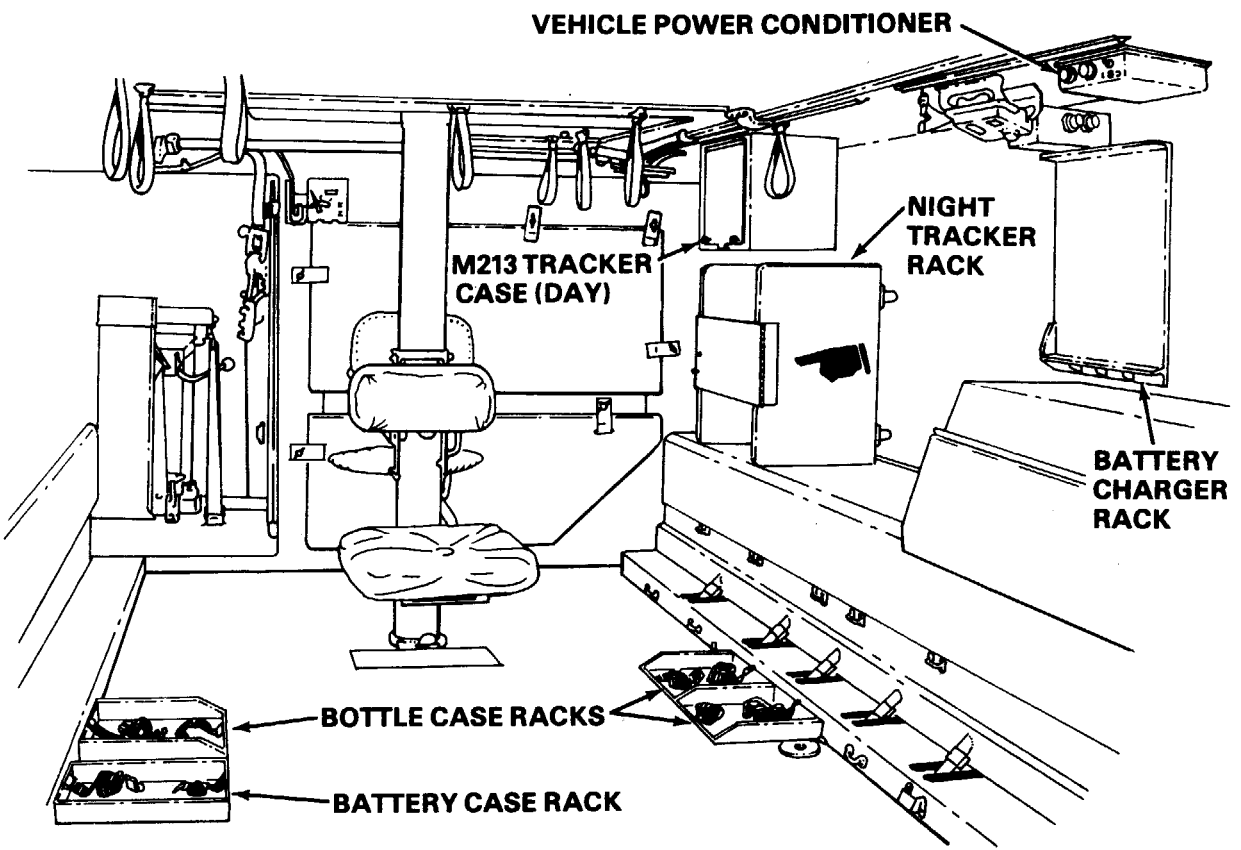

Figure 1-4
b. When you are using the DRAGON on an APC you will require the following items of support equipment. These items are shown on Figure 1-4, 1-5 and 1-6.
d. Have your supervisor or track mechanic refer to TB 9-1425-480-20 for instructions and procedures to install, remove, and maintain DRAGON support equipment shown on figure 1-4.